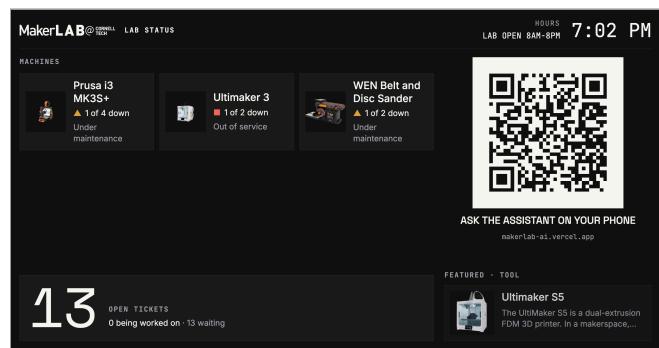

Fig. 2: The kiosk (/kiosk) on the lab’s TV: machines down, open tickets, hours, a featured tool, and a QR code that opens MakerLAB AI on a visitor’s phone.
**Public dashboard.** A full-screen kiosk (Fig. 2) shows down machines, open tickets, hours and a QR code that opens the assistant on a visitor’s phone. At the front of the MakerLAB it engages students as they walk in, tells them which machines are up, and introduces the assistant.